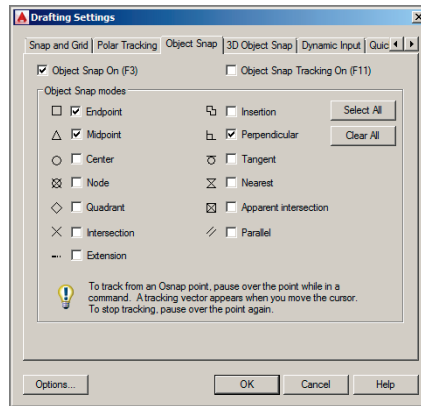

FIGURE 3.11 Turning on a few Running Object Snap modes
5. Toggle on Object Snap on the status bar. Right-click the same icon, and choose Object Snap Settings from the context menu. Click the Clear All button, and then select Endpoint, Midpoint, and Perpendicular (see Figure 3.11). Click OK.